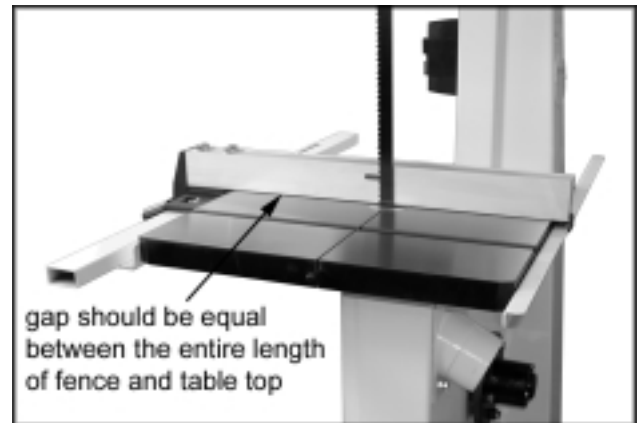

Fig. 11
4. Check the clearance between the table and the fence. The gap should be the same at the front of the table as it is at the rear. If the gap width is different, adjust the foot at the rear of the fence until the gap width is the same, Figure 11.